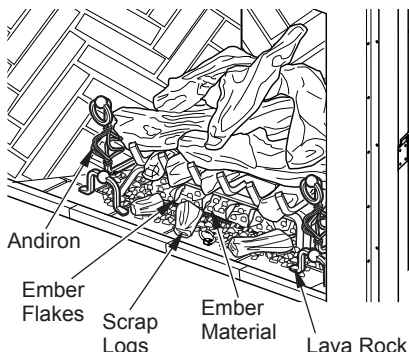

Figure 33 - Installing Floor Media
1. Ember flakes should be placed upright into grooves between ports on ember bed (see Figure 33).